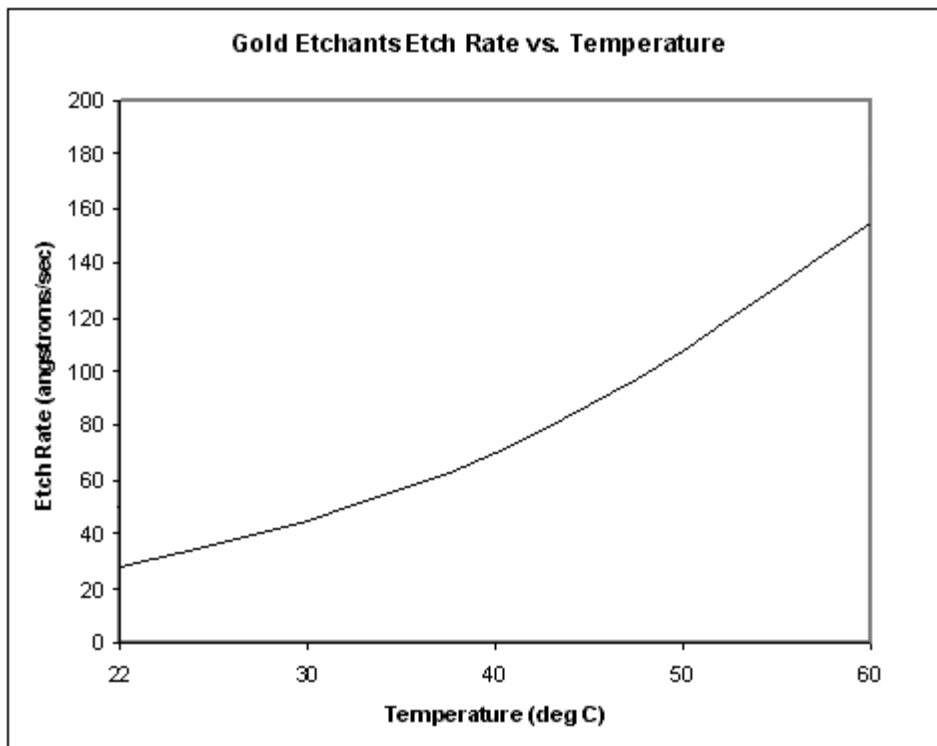

Figure 1 Gold etchant rate change with temperature [4].
5. Calculate the etch time for your sample. You will need to know the thickness of your gold layer. Recommended operating temperature by Transene Company is 20 – 80 °C (30 – 40 °C most common). See figure 1 for the etch rate as function of the temperature [1].